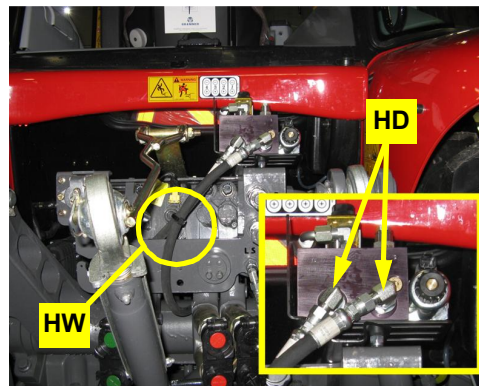

Figure 6c: Installed steering hoses at steering block
- c. Connect the steering hoses **HW** to the elbow adapters **HD** in the **A** and **B** ports on the hydraulic steering block (Figure 6c).